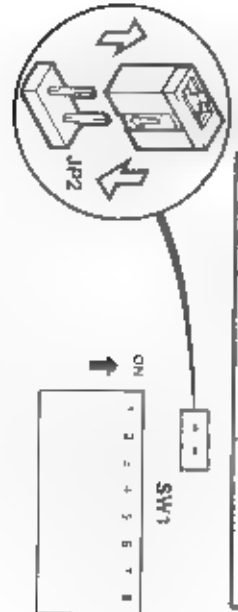

Figure 7.3. Memory Mapping
Use Table 7-1 or the memory maps shown in Figure 7-3 to help you determine the amount of memory your system will be using.
*Memory mode corresponds to Figure 7-3.
Setting the memory expansion board switches depends on how the system board memory switches (and jumper plug) are set. The expansion memory must be contiguous. Therefore, the system board memory settings determine the starting address (1M byte or 1.5M byte) for the expansion memory. Refer to Table 7-1 and Figure 7-3 in Chapter 7